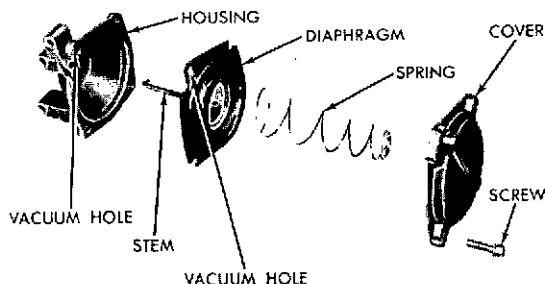

FIG. 39 Disassembly or Assembly of Secondary Vacuum Diaphragm
MODEL 4150 Disassembly of the secondary metering body is similar to the disassembly of the primary metering body (Figure 39).
19. Disassemble the secondary diaphragm. **CAUTION: Loosen four screws carefully and free up cover to prevent catching edges of diaphragm in cover screws (Figure 39).**
ASSEMBLING SECONDARY DIAPHRAGM (Figure 39)